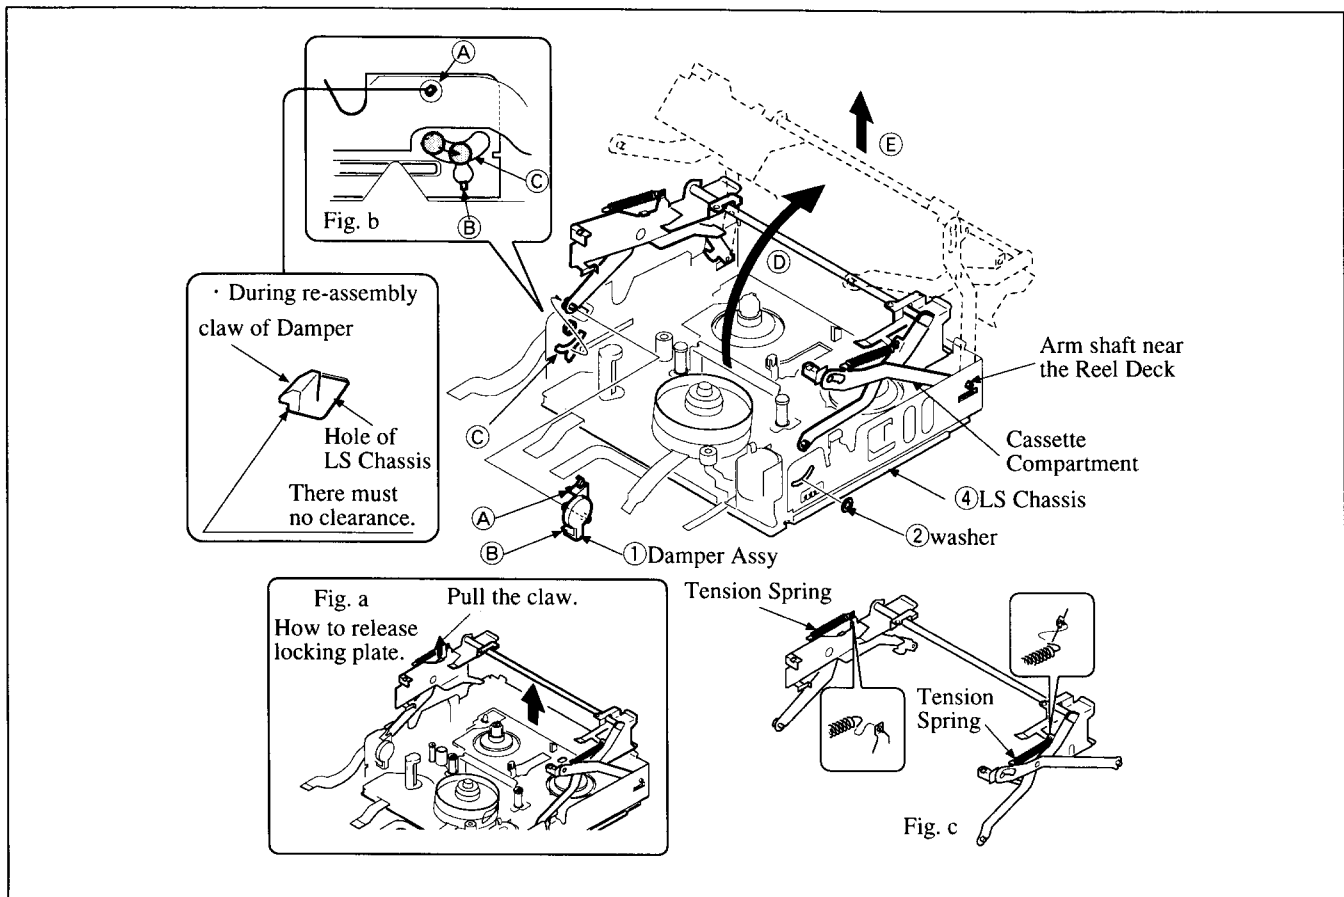

Fig. 1
1. Disassembly Procedure (Refer to Fig. 1.)